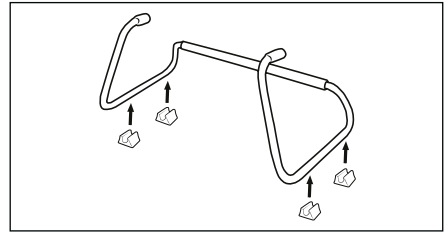

Fig. 1
- ◆ Attach the four feet **❷** to the stand **❶** (see Fig. 1).